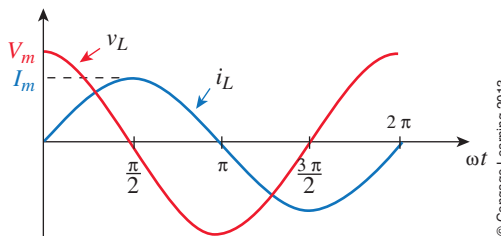
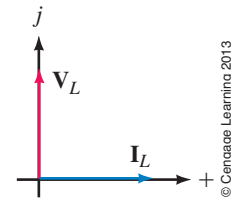
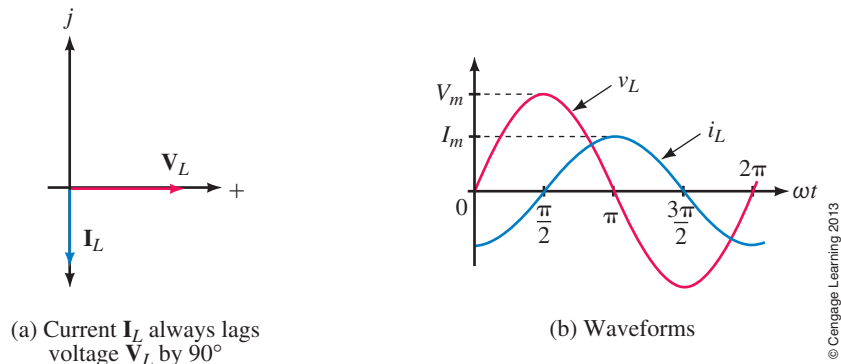

FIGURE 16-23 For inductance, current lags voltage by 90° . Here, i_L is reference.
FIGURE 16-24 Phasors for the waveforms of Figure 16-23 showing the 90° lag of current.
FIGURE 16-25 Phasors and waveforms when V_L is used as reference.
Voltage and current waveforms are shown in Figure 16-23, and phasors in Figure 16-24. As you can see, *for a purely inductive circuit, current lags voltage by 90°* (i.e., $\frac{1}{4}$ cycle). Alternatively you can say that voltage leads current by 90° .
Although we have shown that current lags voltage by 90° for the case of Figure 16-23, this relationship is true in general, that is, current always lags voltage by 90° regardless of the choice of reference. This is illustrated in Figure 16-25. Here, V_L is at 0° and I_L at -90° . Thus, voltage v_L will be a sine wave and current i_L a negative cosine wave, that is, $i_L = -I_m \cos \omega t$. Since i_L is a negative cosine wave, it can also be expressed as $i_L = I_m \sin(\omega t - 90^\circ)$. The waveforms are shown in (b).
- $i_L = 1.99 \sin(\omega t - 90^\circ)$ mA. Waveforms same as Figure 16-25.